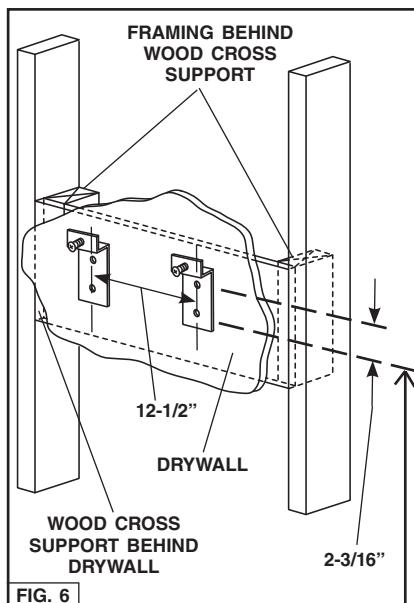

FIG. 6
- Construct wood wall **framing** that is flush with interior surface of wall studs. Fig. 6.